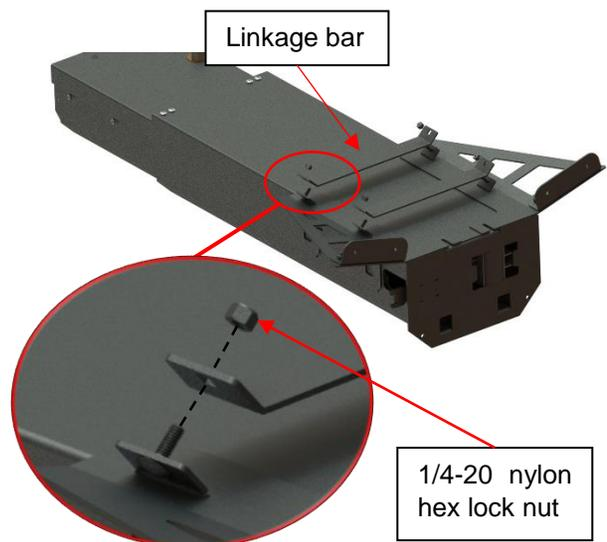

Figure 66
- 8) Link the right and left support brackets with the linkage bar with the included 1/4-20 nylon hex lock nuts and carriage bolts already installed. Leave these untightened. (Figure 66)